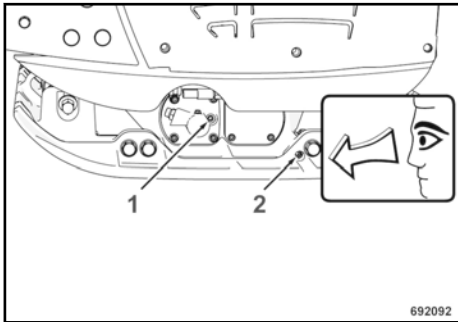

Fig. 48
Unscrew the bleeder screw (1) ↪ Fig. 48.